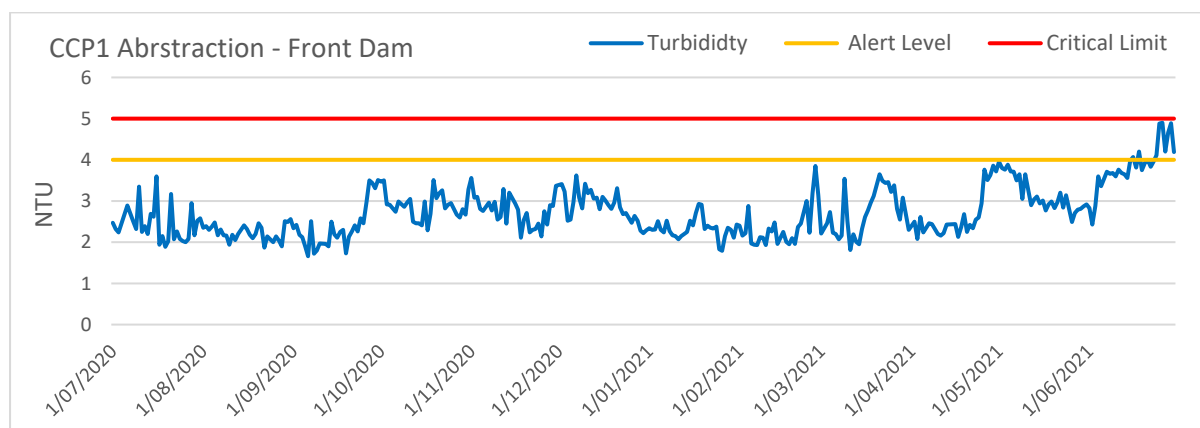

Figure 4.3.2a - CCP 1 Abstraction – Turbidity at Front Dam
Monitoring data for each of the Crescent Head supply systems CCPs is shown in Figures 4.3.2a, 4.3.2b and 4.3.2c.
No Critical Limits exceptions occurred in the Crescent Head supply in 2020-2021, (Table 4.1 and Figures 4.3.2a, 4.3.2b and 4.3.2c).
- CCP1 – Abstraction: Turbidity >4 NTU, nine (9) occurrences
- Free Chlorine >3 mg/L - one (1) occurrence
- pH >8.0 - four (4) occurrences
- pH <6.8 - five (5) occurrences
The nine (9) abstraction Turbidity Alert Levels all occurred in June 2021 (range between 4.07 to 4.90 NTU, Figure 4.3.2a); being a result of declining water quality within the borefield. Bore selection based on water quality testing and scouring of transfer line help to lower turbidity levels at the front dam.